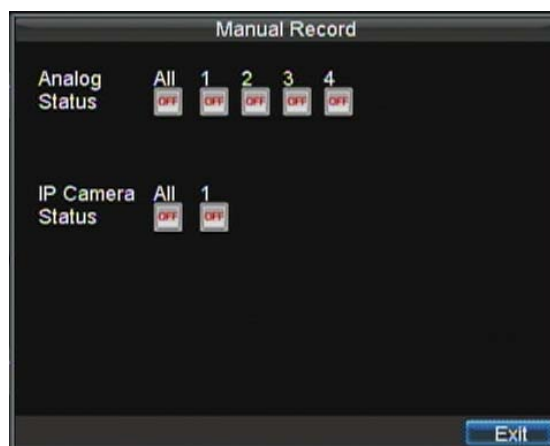

Figure5. Manual Record Menu
1. Press the *REC* button on the front panel to access the **Manual Record** dialog box, shown in Figure 5.